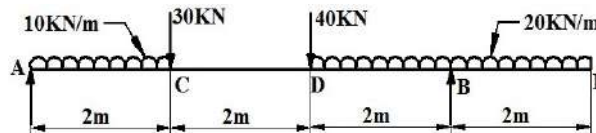

Figure 25
15. For the beams shown in **Figure 25**, draw shear force and bending moment diagram. Locate point of contra flexure if any